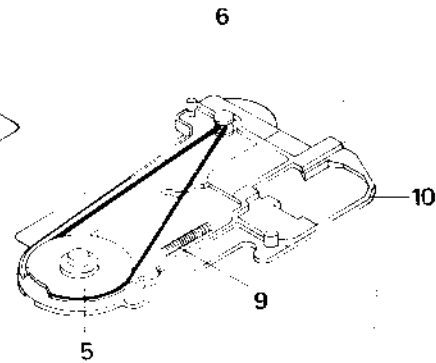

Fig. 6.
- 4) Adjust OO Sensor (8 on Fig. 6) so that scope shows correct difference as Fig. 2.